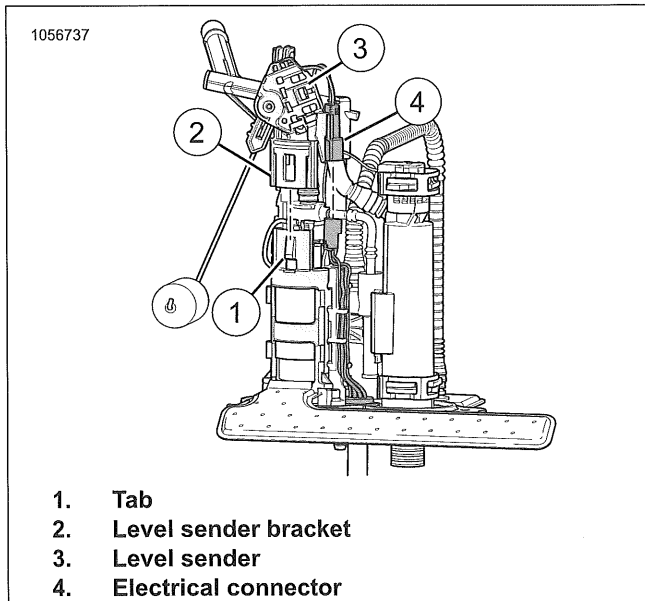

Figure 6-21. Level Sender
1. See Figure 6-21. Remove level sender.
- a. Disconnect electrical connector (4).
- b. Press tab (1) to release level sender bracket (2).
- c. Remove level sender (3).
1. See Figure 6-21 Install level sender.
- a. Align level sender bracket (2) with tab (1).
- b. Install level sender (3).
- c. Connect electrical connector (4).